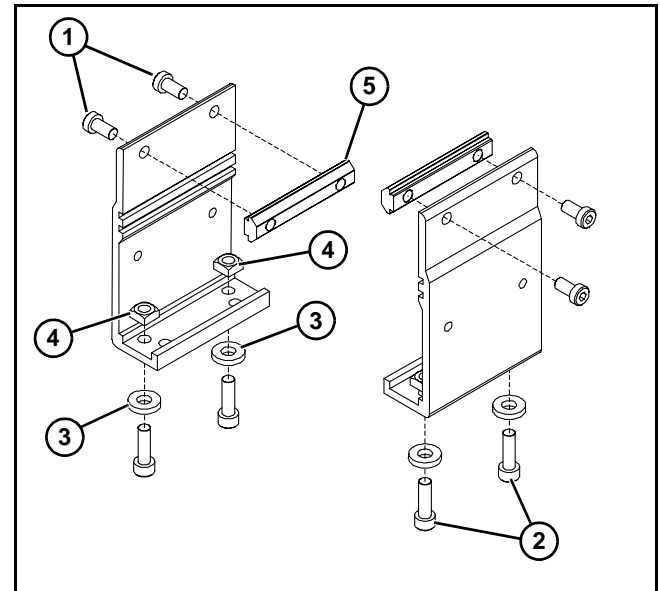
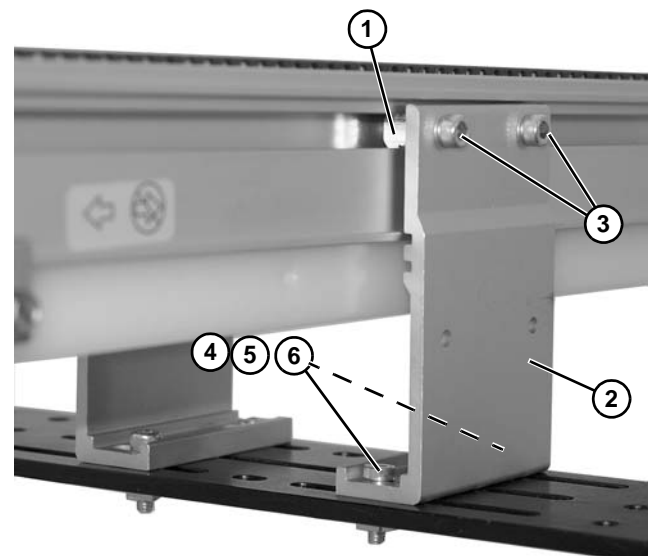

Figure 10
Figure 11
- Locate brackets. Exploded view shown in Figure 10.
- Remove screws (**Figure 10, item 1 & 2**), washers (**Figure 10, item 3**), nuts (**Figure 10, item 4**) and T-bars (**Figure 10, item 5**) from brackets.
- Insert T-bars (**Figure 10, item 5**) into conveyor side slots (**Figure 11, item 1**). Fasten brackets (**Figure 11, item 2**) to conveyor with mounting screws (**Figure 11, item 3**).
4. Fasten brackets to support stand with mounting screws (**Figure 11, item 4**), washers (**Figure 11, item 5**) and nuts (**Figure 11, item 6**).
5. Tighten screws (**Figure 11, item 3 & 4**) to 60 in-lb (7 Nm).